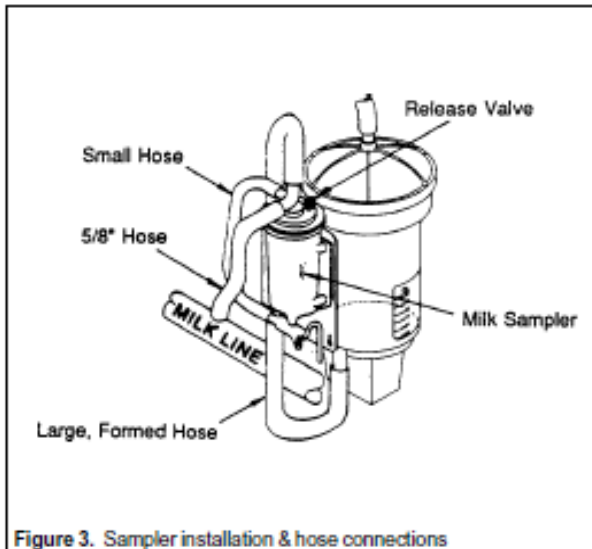

Figure 3. Sampler installation & hose connections
Before each use, sanitize the sampler and all hoses associated with it, according to the instructions in Section 4. Then, install the sampler, as shown in Figure 3 and explained below:
2. Ensure that the release valve, on top of the sampler cover (see Figure 3), is seated properly.